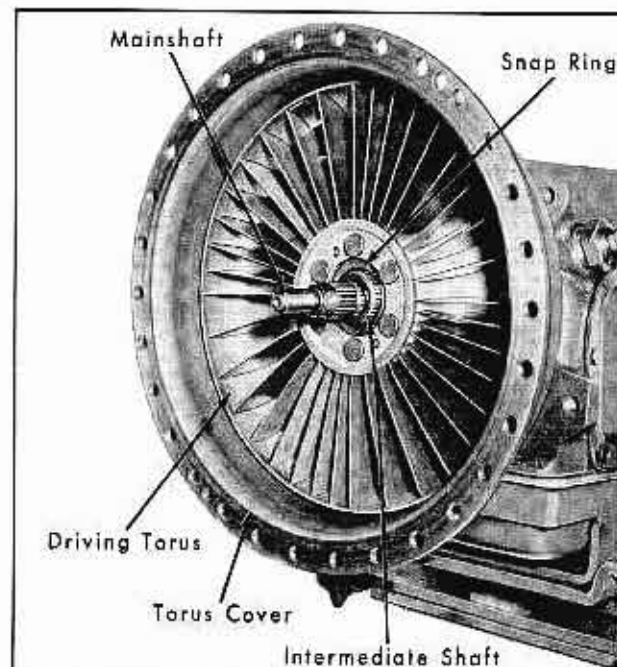

Fig. 14-82 Driving Torus Installed
4. Install drive torus member on splines of intermediate shaft and install snap ring, using Snap Ring Pliers, Tool No. KMO-410. Fig. 14-82.